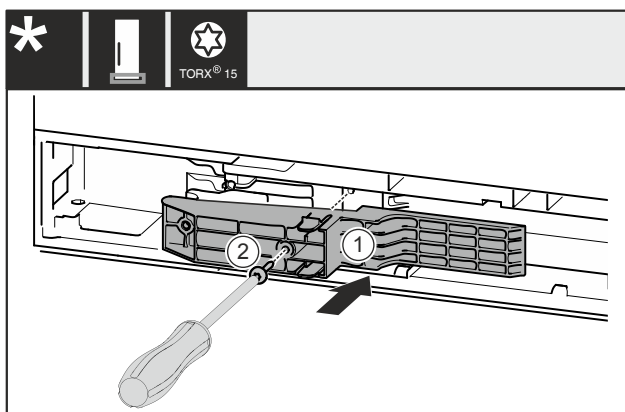

Fig. 51 *
- ▶ Insert adapter Fig. 51 (1) in the recess on the handle side.*
- ▶ Tighten screw Fig. 51 (2) with screwdriver.*